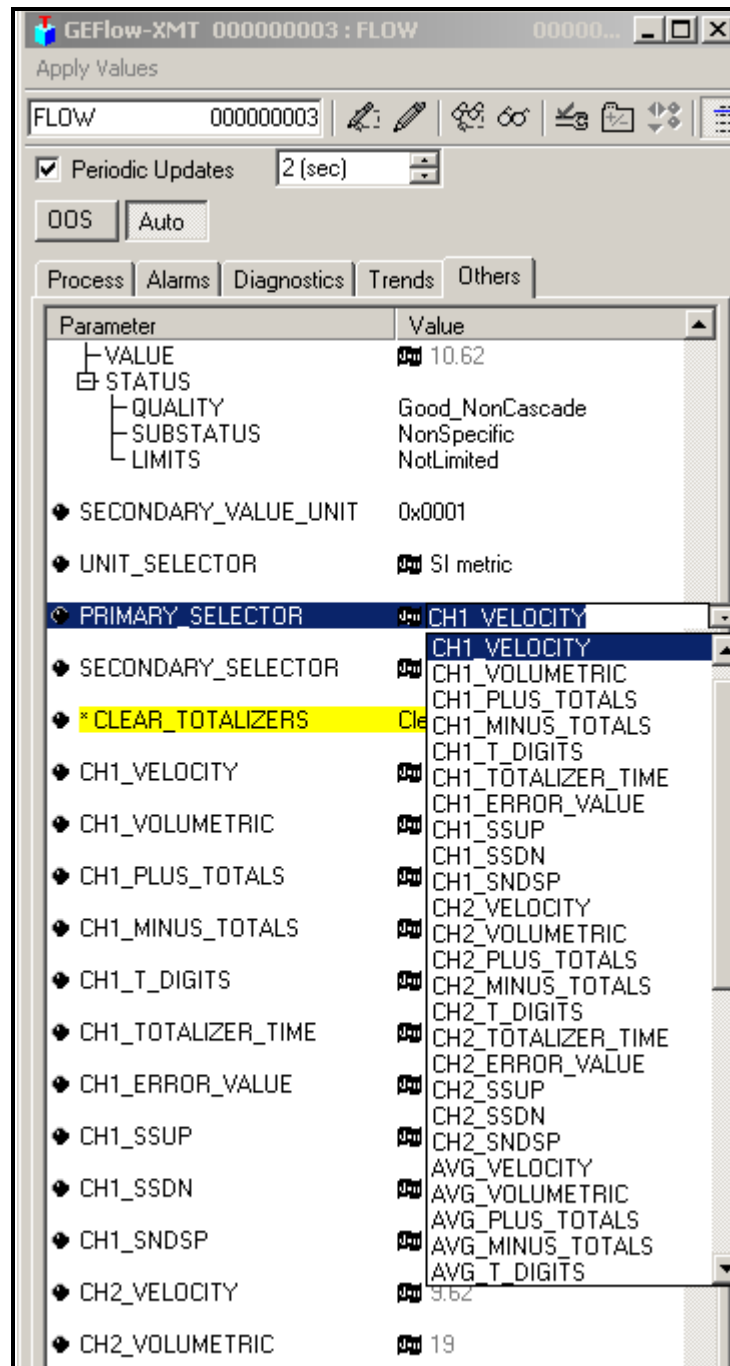

Figure 41: Primary Selector Drop Down List
2. Select the **Others** tab and open the drop down list for the PRIMARY_SELECTOR and SECONDARY_SELECTOR (refer to Figure 41 on page 115).
3. Choose the unit from the list (see Figure 41 on page 115).